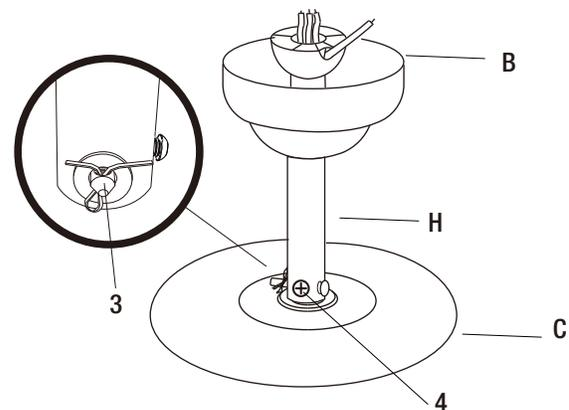

Figure 5
- Push the pivot pin (3) through the motor shaft and downrod holes (Figure 5). Pivot pin's insert end is a specially-designed cone shape as it pushes away and won't harm the wires inside the downrod. Secure the pivot pin by inserting the split pin and bending the ends to prevent it from falling out of the holes (Figure 5).
- Secure the motor shaft and downrod by tightening the screw (4) on the downrod (Figure 5).